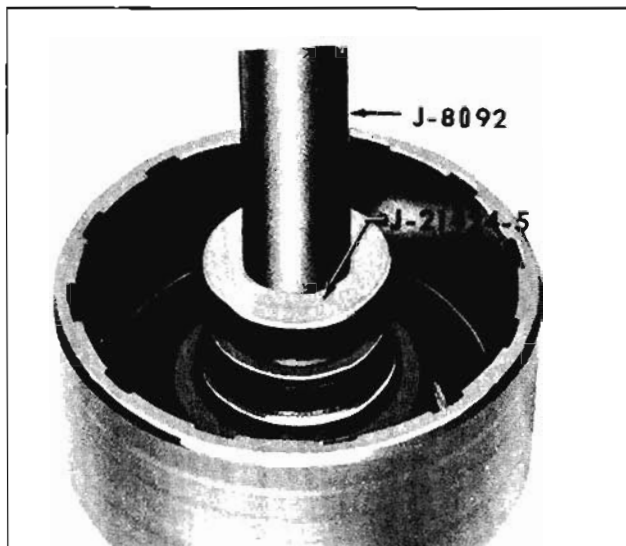

Fig. 6-357 Removing Clutch Drum Bushing.
12. Check forward clutch drum bushing for nicks, severe scoring or wear. If bushing replacement is necessary, proceed as follows: Using Tool J-21424-5, press damaged bushing from forward clutch drum. (Fig. 6-357)